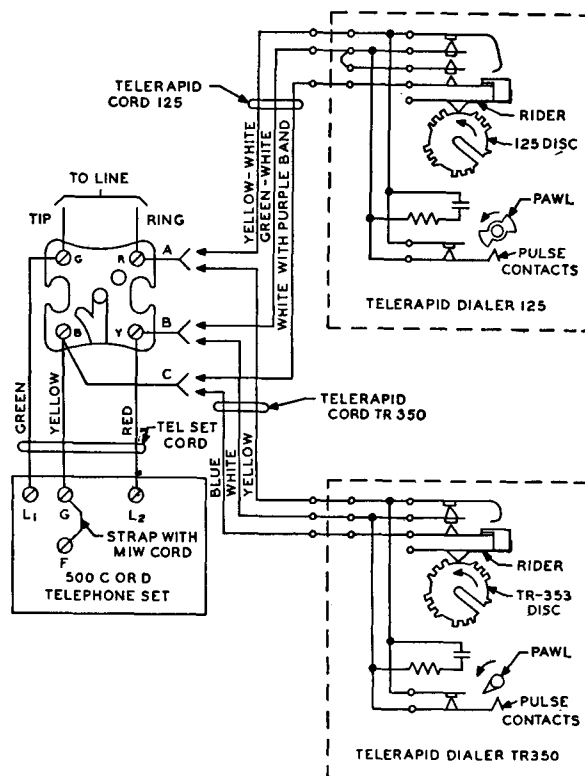

Fig. 7—Telerapid Dialers 125 and TR350 for 500-type Telephone Set
4.02 Figs. 7 through 11 show the connections necessary at the most common installations.
| Cord and Plug | CORD, EQUIPPED WITH PLUG FOR TELERAPID 125 OR TR350. Both the 125 and TR350 Telerapid cords are covered with black fabric and are about 5 feet long equipped with plugs at one end and spade tips at the other end. Each cord can be interchanged in either Telerapid. (See Fig. 7.) |